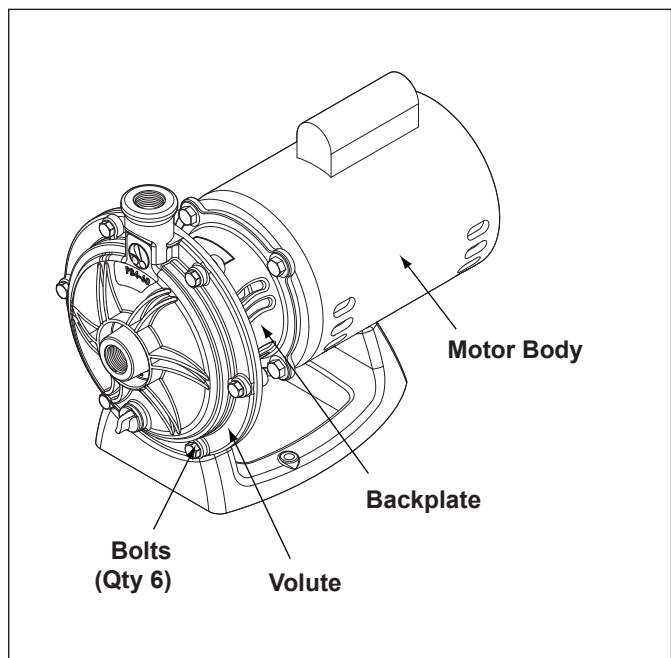

Figure 8. Remove the Pump Volute
3. Using a 9/16" wrench, loosen the bolts connecting the pump volute to the motor backplate. See Figure 8.
5. Remove the motor shaft cover on the back of the motor by twisting the hex-head screw with a 90° crescent wrench. See Figure 8. The motor shaft will be exposed.